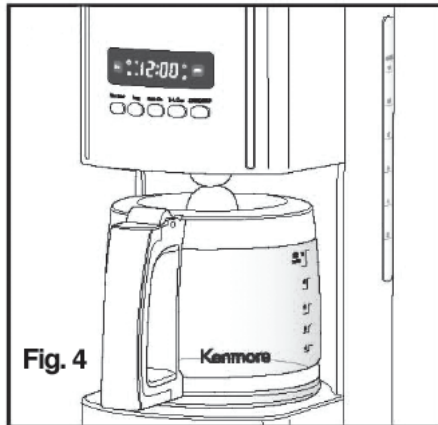

Fig. 4
2. Use the carafe to fill the water tank of the coffeemaker to the desired level with cold water. There is a gauge marked from 4 to 12 cups (600 to 1800 ml) on both the coffeemaker's water tank and on the sides of carafe (see Fig. 4). These marks show the amount of cold water needed for each cup of coffee. The amount of brewed coffee will be slightly less due to the coffee grinds absorbing some of the water.